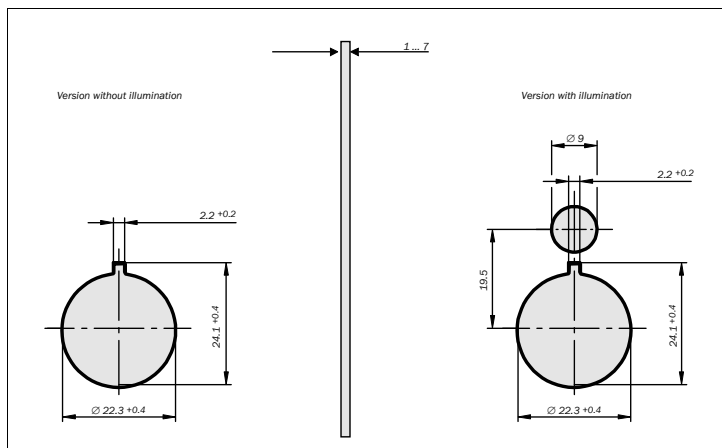

Fig. 1: Dimensional drawings of the mounting holes for the built-in versions (mm)
- Drill mounting holes in the mounting plate (see Fig. 1; for illuminable pushbuttons, see dimensional drawing on the right).